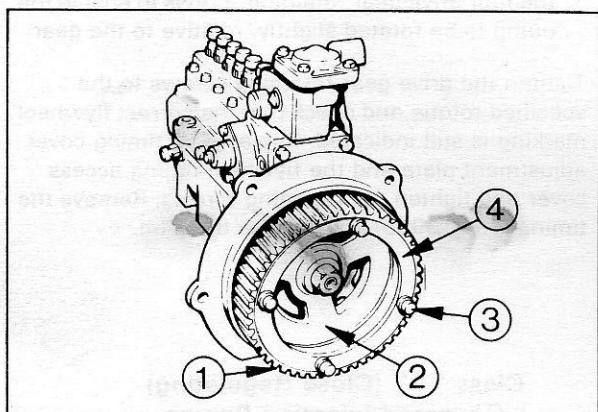

Fig. 55 - Injection Pump Drive Gear
83. New pumps only. Install the ring gear and plate into position, but do not fully tighten the screws (Fig. 55). Drain any oil from the fuel gallery of the new pump.